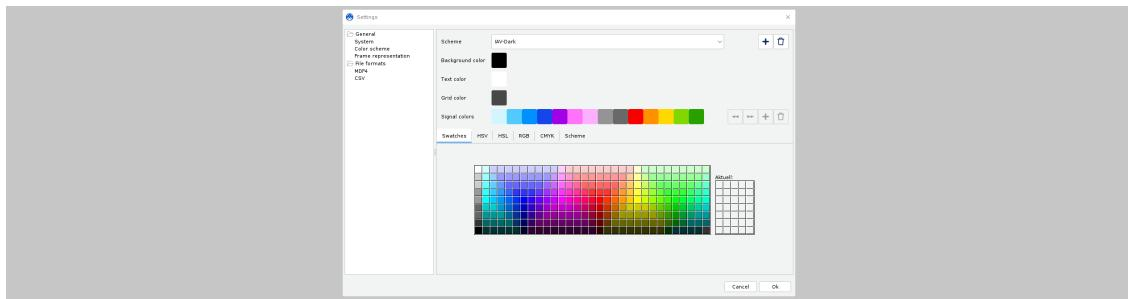

Figure 4: The Settings window > Colour scheme
Using the Colour scheme options (see Figure 4), colours for signals, background, grid and text can be set.
2. Press **Colour scheme** in the left-hand sidebar of the Settings window (see Figure 4).